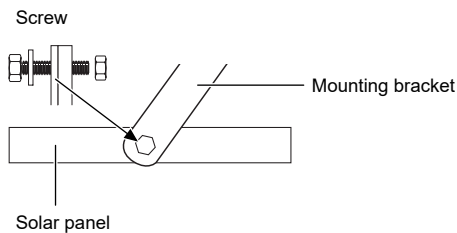

Fig. B1: Solar panel bracket installation (No: 3156506)
2. No: 3156506: Install the solar panel mounting bracket on the solar panel using the supplied screws, washers and nuts. Refer to Fig. B1 for details.